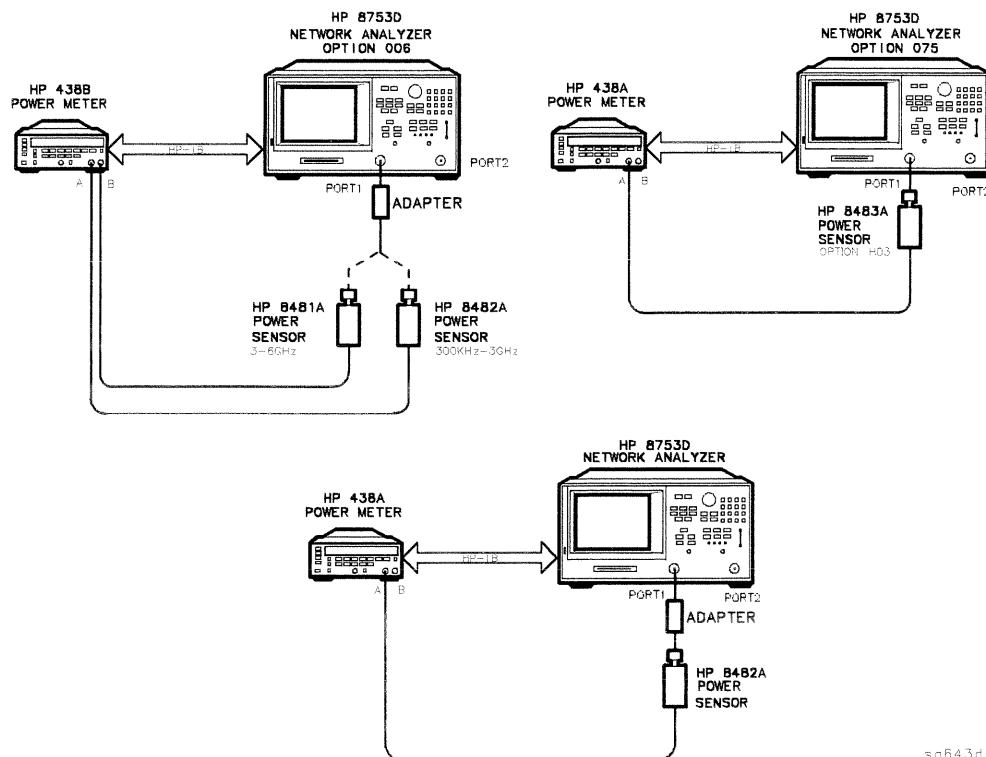

Figure 3-2. RF Output Correction Constants Test Setup for the HP 8753D
9. Connect the equipment as shown in Figure 3-2.